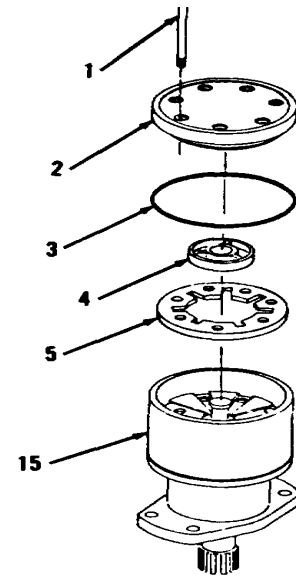
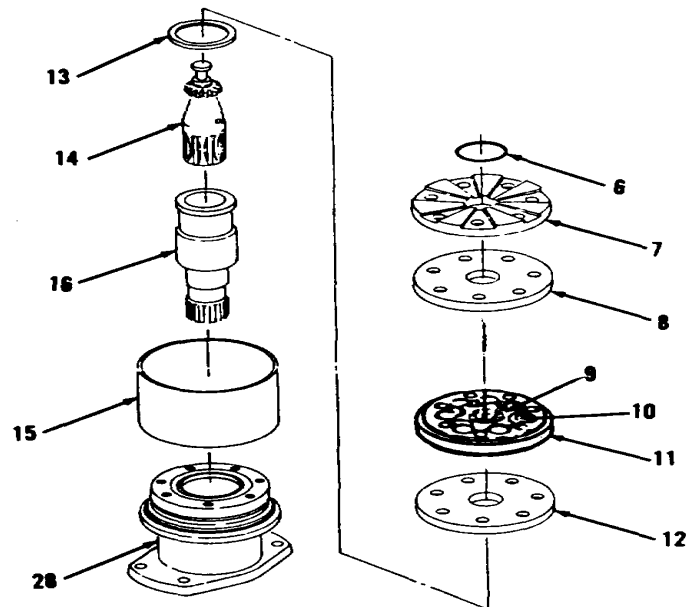
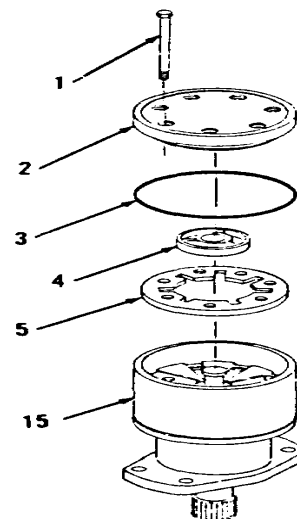

Figure 10-59.
Figure 10-60.
Figure 10-59.
1. Remove seven bolts (1), cover (2) and preformed packing (3, Figure 10-59). Discard preformed packing (3).
2. Remove inner plate (4) and outer plate (5) from sleeve (15).
3. Remove and discard preformed packing (6, Figure 10-60).
4. Remove manifold (7) and plate (8).
5. Remove inner rotor (9), seven pins (10) and outer rotor (11) as an assembly.
6. Remove plate (12).
7. Remove bearing (13) and link (14).
8. Remove sleeve (15) and shaft (16) from housing (28).
8. Install shaft (16) and sleeve (15) on housing (28, Figure 10-60).
9. Install link (14) and bearing (13).
10. Install plate (12).
11. Install outer rotor (11), seven pins (10) and inner rotor (9) as an assembly..
12. Install plate (8) and manifold (7).
13. Install new preformed packing (6) on items 28 thru 7 as an assembly.
14. Install outer plate (5) and inner plate (4) into sleeve (15, Figure 10-59).
15. Install new preformed packing (3), cover (2) and seven bolts (1). Tighten seven bolts (1) to 50 ft-lb torque.